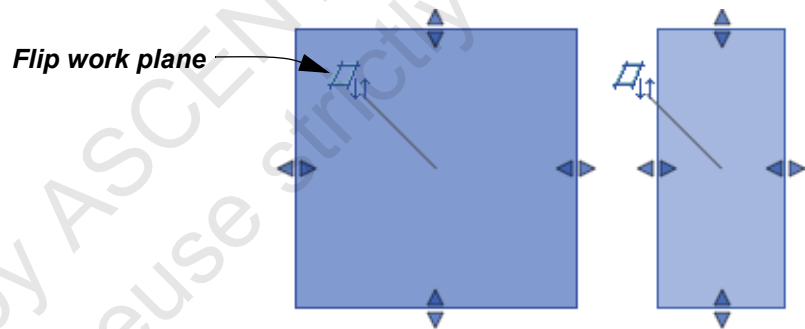

Figure 1–12
You can use Properties to modify an element's shape, material, and offset from host. You can also use shape handles to change the sizes of mass elements in plans or elevations (but not in 3D views), as shown in Figure 1–12. This method is not very precise but might be all that you need to do at this early stage of the conceptual design. The shape handle in the center flips the work plane.
- Figure 1–13 shows the Properties for a box mass element. Dimension options vary according to the parameters of the shape.